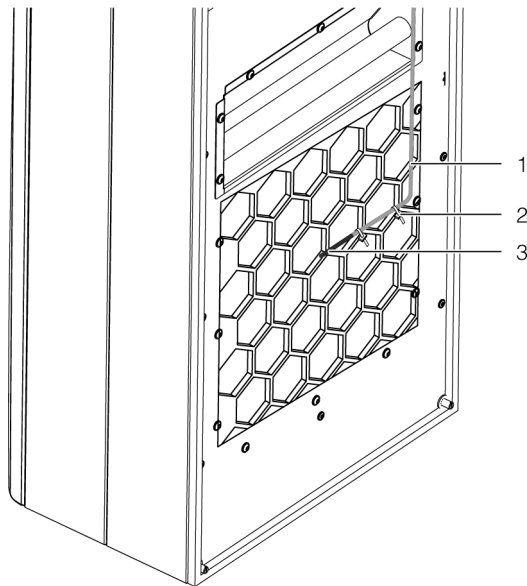

Fig. 43: Temperature sensor in front of cold air outlet (example illustration)
- Attach the temperature sensor in front of the cold air outlet from the cooling unit, in the centre (fig. 43).